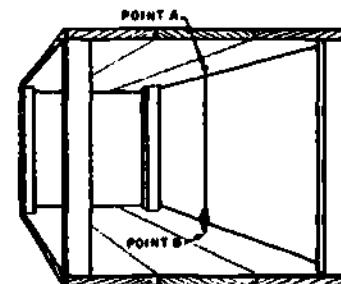

Figure 1-127. Locating a Point Exactly Below a Reference Point
- c) To locate a point exactly below a particular point in space, secure the plumb bob cord to the upper point (see A in Figure 1-127). When the plumb bob stops swinging, the point as indicated at A will be exactly above B.